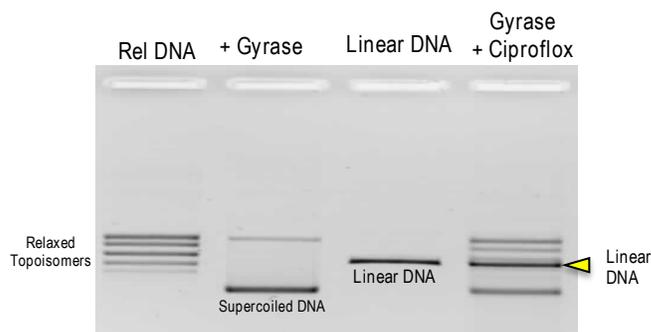

Figure 2. Gyrase Products Resolved on a Non-EB Gel system
J. Analysis of reaction products by electrophoresis: For each gel, run a negative control (relaxed DNA lacking gyrase plus and minus drug being tested). The negative control should look very different from the gyrase reaction products (which will be faster migrating, supercoiled DNA forms; see Fig. 2, below).
- Yes, we can. The results and a helpful discussion is shown in Fig. 2 (see legend).